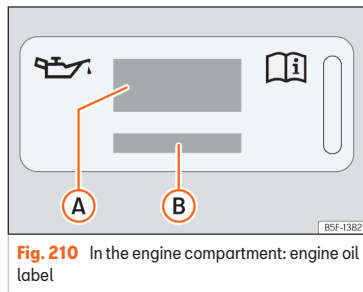
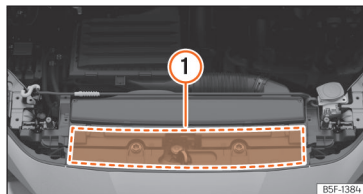

Fig. 210 In the engine compartment: engine oil label
Fig. 211 In the engine compartment: area where the engine oil label is located
Key to the >>> **Fig. 210:**
If the engine oil has to be topped up, use one of the oils shown on the label >>> **Fig. 210**. The label with the prescribed standard is located at the front of the engine compartment >>> **Fig. 211 (1)**. If you use the recommended engine oil, you can top up the oil as often as necessary.
- If the label showing the engine oil specifications is missing ››› Fig. 210, please contact a specialist workshop.